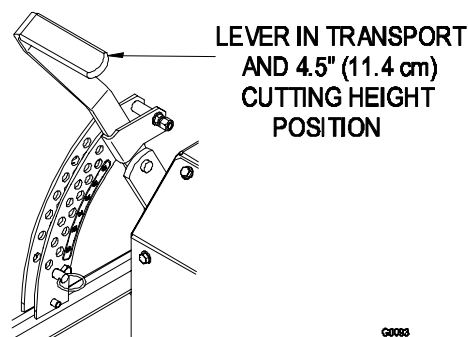

FIGURE 5
- c) Raise the deck lever to the transport position (also the 4.5” (11.4 cm) cutting height position). See Figure 5.